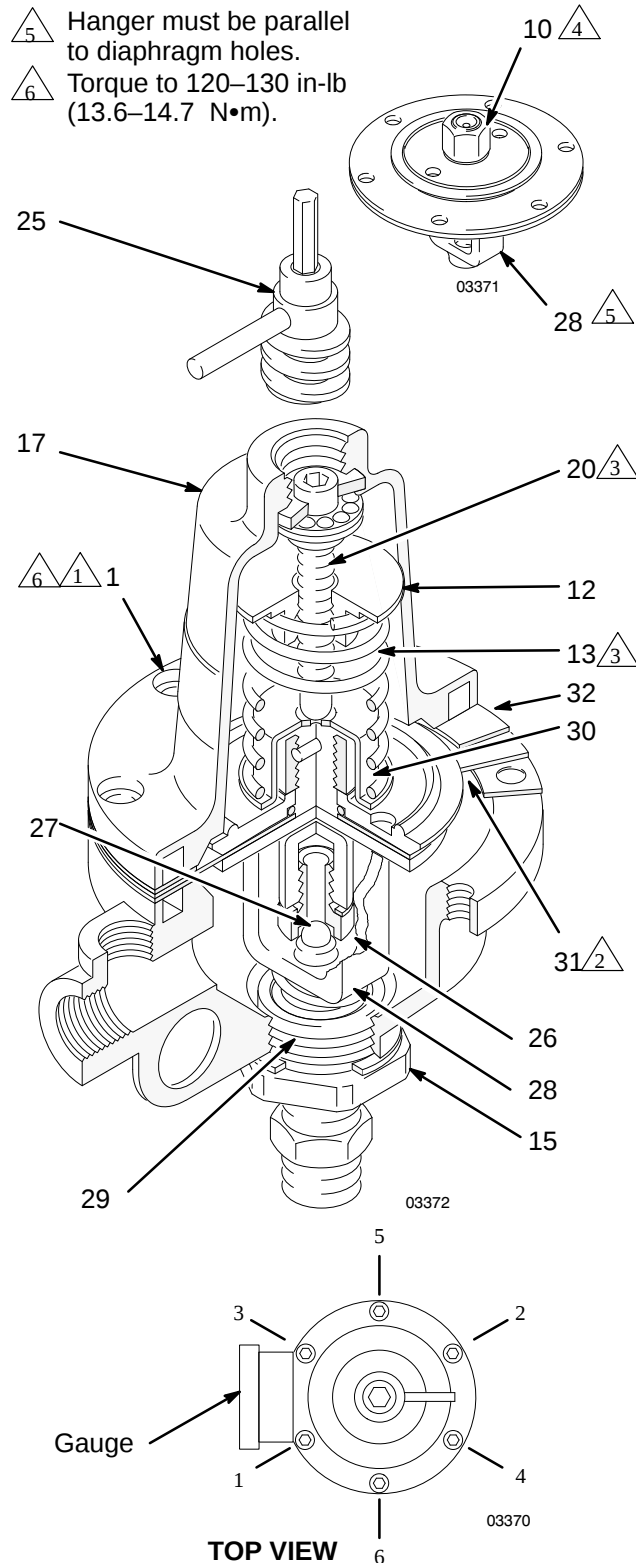

Fig. 3
Before installing the regulator, check the tightness of the screws (1). Refer to Fig. 3 for the tightening sequence and the torque value. If the regulator leaks during operation, check and torque the screws again.
1. Using the hex end of key (25), adjust screw (20) all the way counterclockwise to relieve regulator spring tension.
2. Remove outlet bushing (15) and counter-balance spring (29) (Model 204–500 only) from the body.
3. Unscrew valve stem (27) from diaphragm hanger (28) with adjusting key. See Fig. 3.
4. Remove screws (1), regulator cap (17), spring adjusting screw (20), spring (13), and spring cap (30) (Model 204–500 only).
5. Lift diaphragm (31) and hanger from body. Disassemble the hanger and diaphragm only if damaged.
6. Unscrew valve seat (26) from body with a 9/16" socket wrench. See Fig. 3.
The hanger should be in line with one set of holes and the nut should be torqued to 20 ft-lb (27 N•m). Turn the valve stem snugly against the seat and then back off 1/2 turn on model 204–500 and 3/4 turn on other models to set valve clearance. When installing the cap (17), line up finger of spring adjusting nut (12) with the groove in the cap (17). Torque the six screws (1) evenly to 120–130 in-lb (13.6–14.7 N•m) three times consecutively, in the order shown in the **TOP VIEW**, to compensate for diaphragm relaxation. See Fig. 3.
- △₁ See torque sequence in Fig. 3.